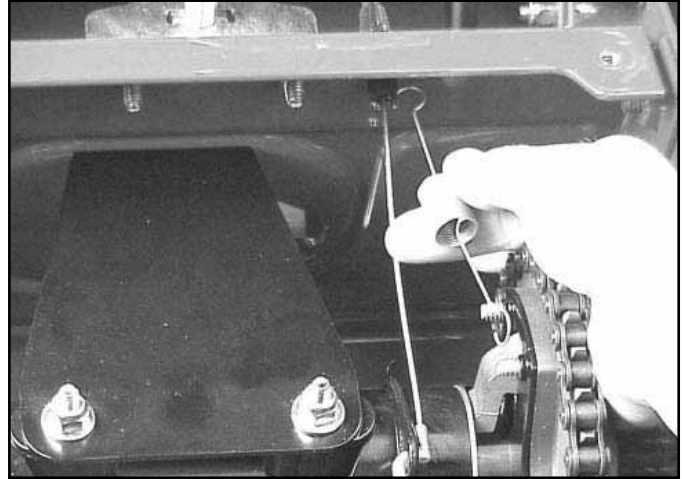

Fig 120 MVC-897springX.jpg
6. Remove extension spring - Unhook spring from lower clutch collar and housing (Fig. 120).